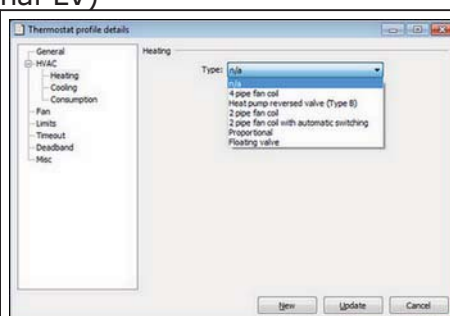

Figure 53
1. Click the plus sign in front of **HVAC** in the left pane of the **Thermostat profile details** dialog; the three alternatives **Heating**, **Cooling** and **Consumption** are shown. At **Heating**, make the applicable choice in the drop-down-menu; the available alternatives are shown in Figure 53. For *2-pipe fan coil with automatic switching*, further settings can be made; click here for details.